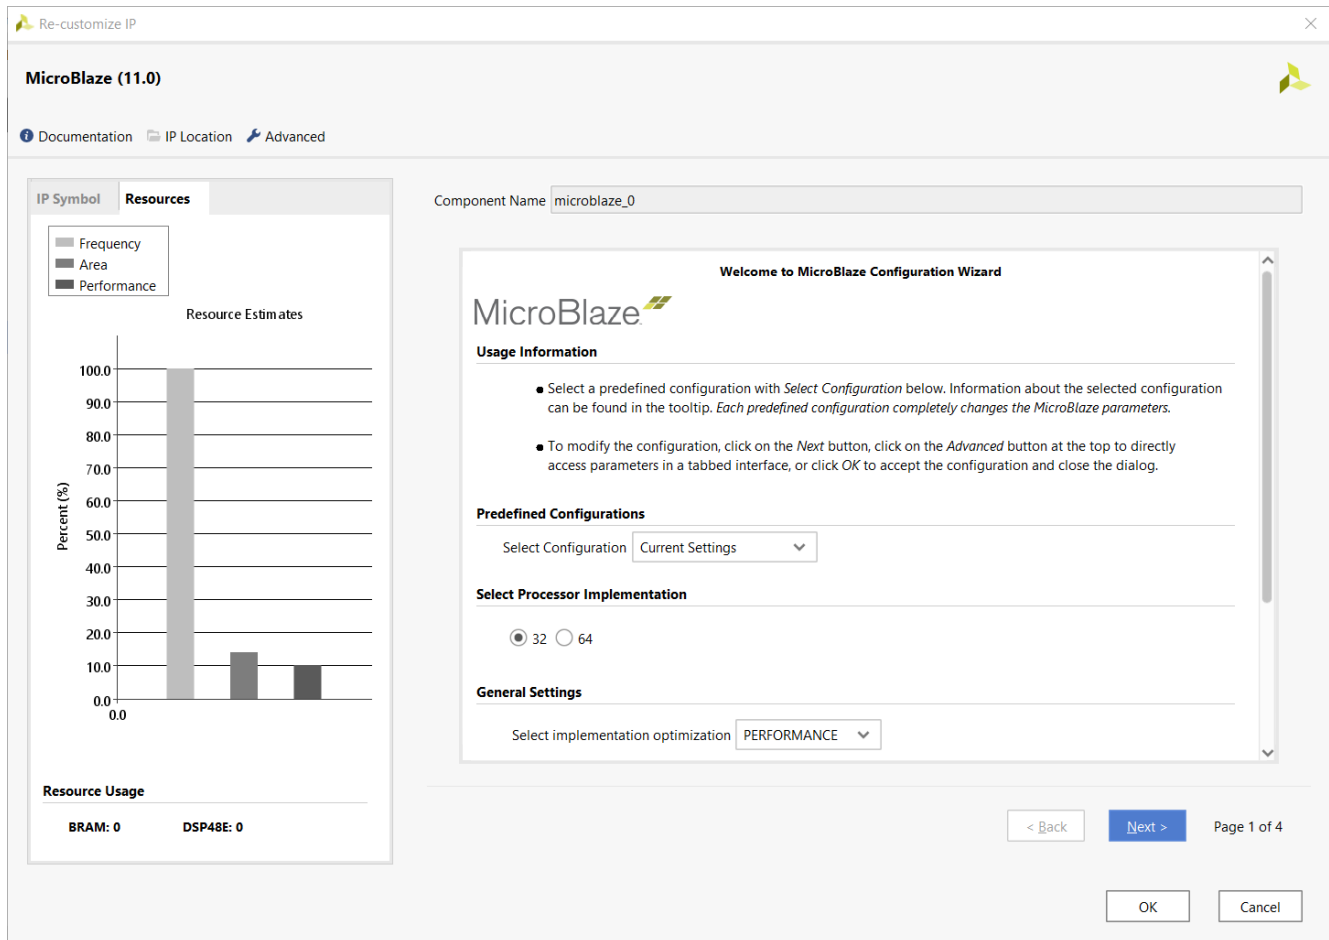

Figure 4-6: MicroBlaze Configuration Wizard
4. Double-click the MicroBlaze IP in the canvas to invoke the Re-customize IP process, which displays the Re-customize IP configuration page for the MicroBlaze processor, shown in Figure 4-6.